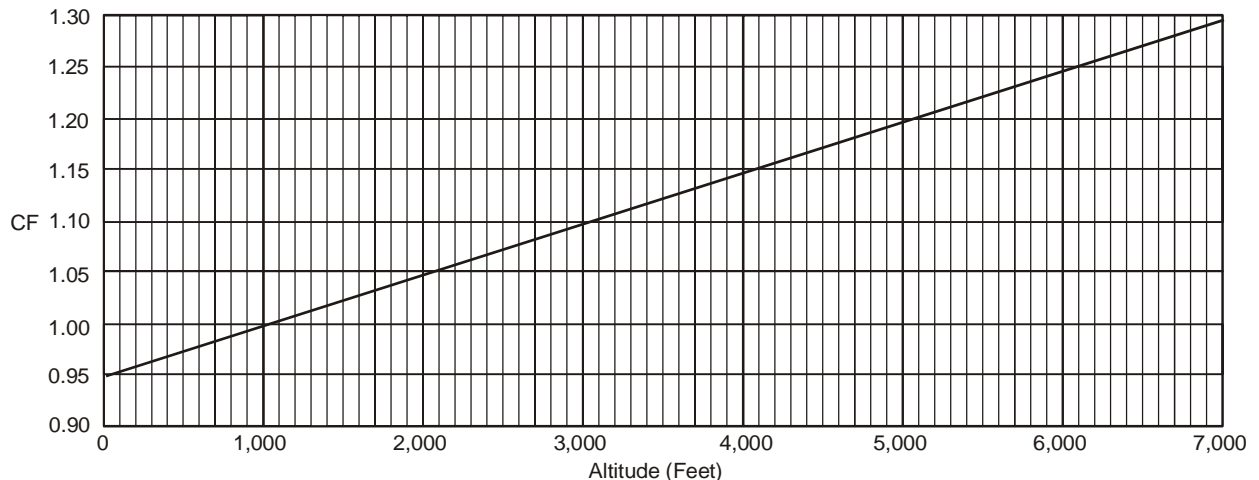
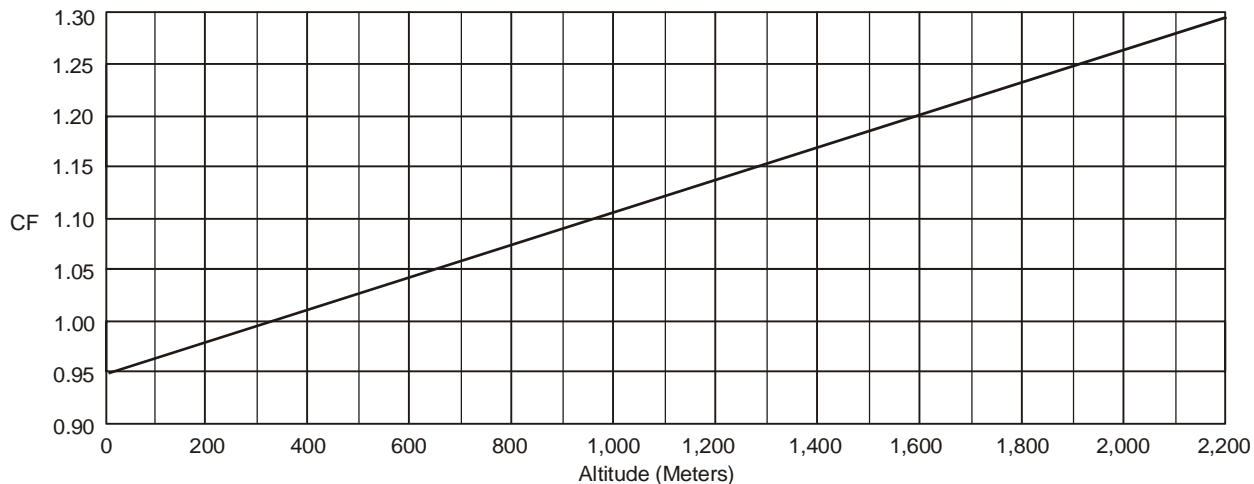

Figure 11: Altitude Compensation in Feet above Sea Level
Figure 12: Altitude Compensation in Meters above Sea Level
To do this, reset the 2,000 ppm value using the controller's Compensation Factor (CF) shown in Figure 11 or Figure 12, as follows:
For example, if the sensor is situated at an altitude of 3,000 ft (914.4m) above sea level, the CF is 1.10 (see Figure 11 or Figure 12).